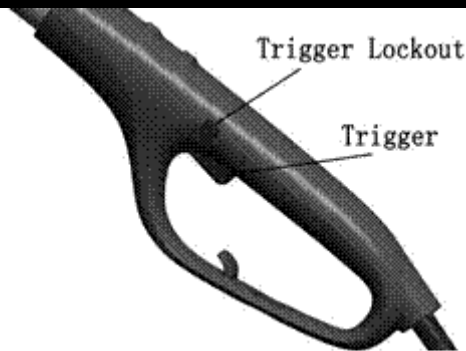

Figure 8
6. When ready to make a cut, press in trigger lockout and squeeze trigger (See Figure 8). This will turn pole trimmer on. Releasing trigger will turn pole trimmer off. Make sure trimmer is running before starting a cut.